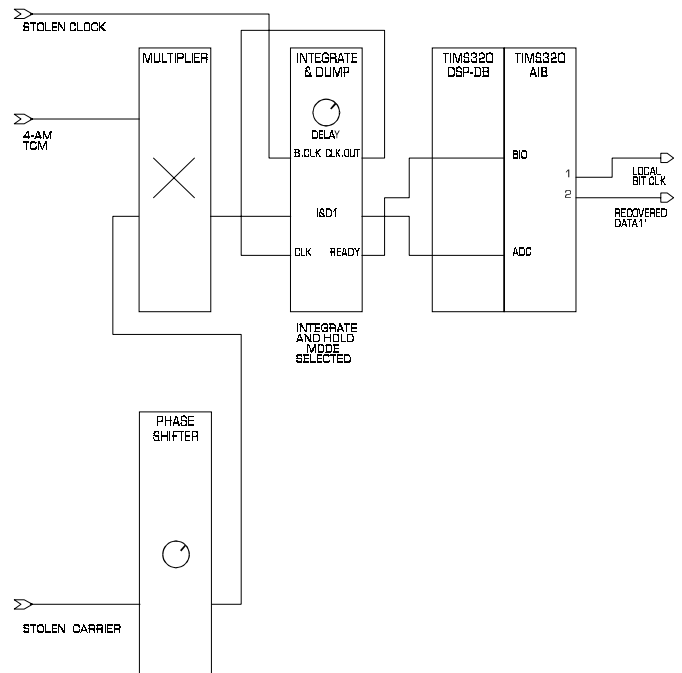

Figure 2: TCM DECODER BLOCK DIAGRAM
The modules required for the TIMS 4-AM TCM demodulator are patched together as illustrated in Figure 2 on the previous page.
1. The modules required for the TIMS 4-AM TCM demodulator are patched together as illustrated in Figure 2, on the first page of this chapter.